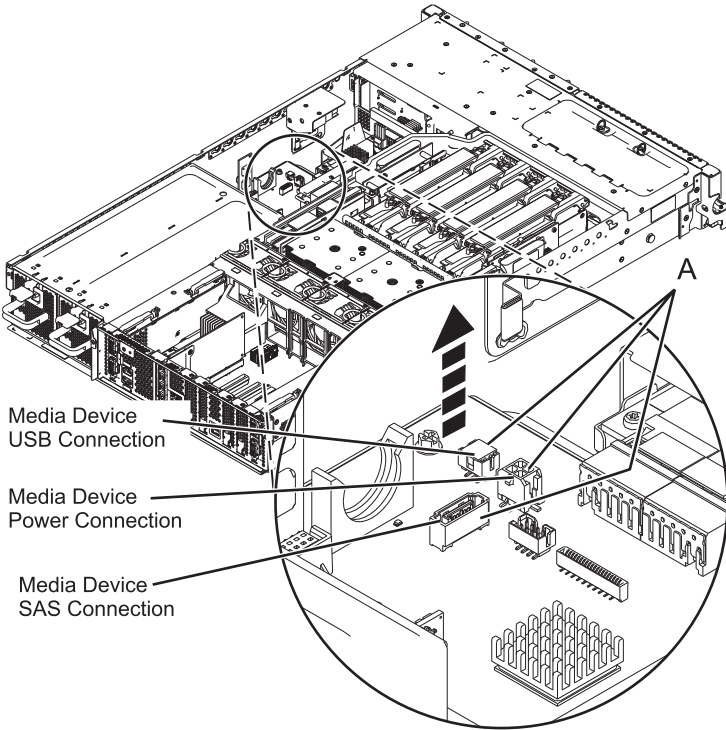

Figure 3. Disconnecting the media device cables
c. Disconnect the media device cables (A). See Figure 3.